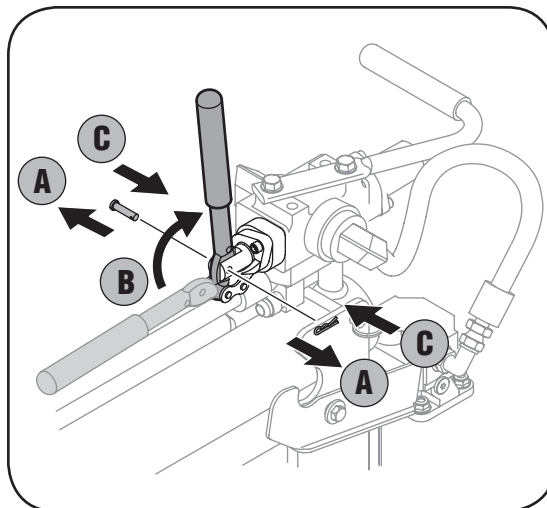

Figure 3-3
8. a. Remove clevis pin and hairpin clip. See Figure 3-3.